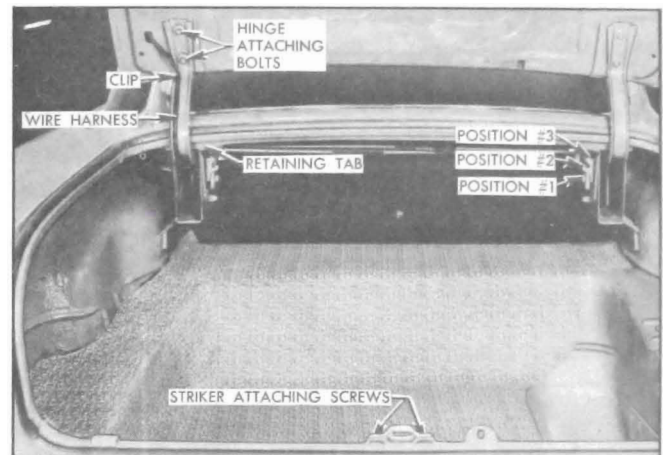

Figure 13-88—Rear Compartment
4. To adjust rear compartment lid guide, loosen attaching screws and adjust guide as required; then tighten screws. (See figure 13-88.)
The torque rods on the rear compartment lid hinge assemblies can be adjusted to obtain the desired effort required to open and close the lid. With the torque rod set in Position No. 1, (see figure 13-88) a decrease in the effort required to open the lid can be had by adjusting the torque rod to Positions No. 2 or No. 3. A corresponding increase in the effort required to close the lid results from this adjustment. With the torque rod set in Position No. 3, a decrease in the effort required to close the lid can be had by adjusting the torque rod to Positions No. 2 or No. 1. A corresponding increase in the effort required to open the lid results from this adjustment.
1. Scribe location of striker and remove two attaching bolts; then remove striker. (See figure 13-88.)